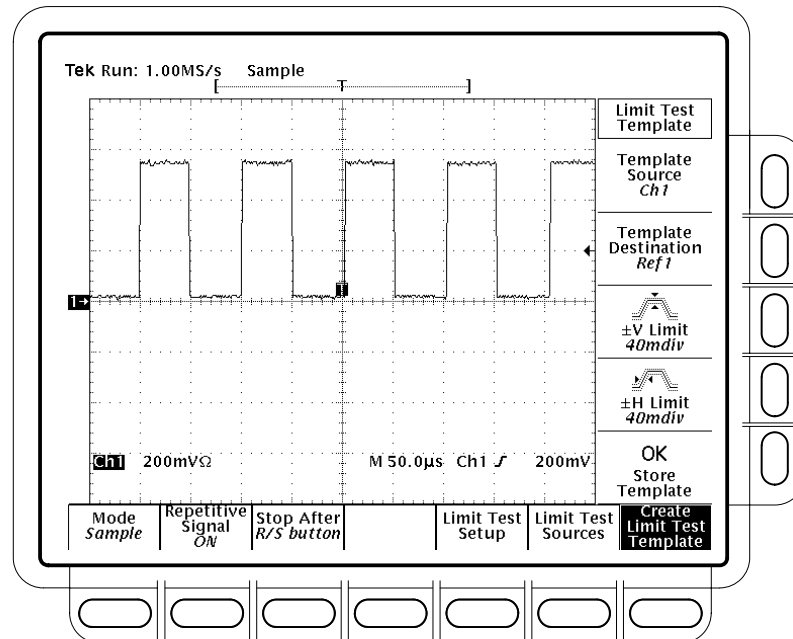

Figure 3-93: Acquire Menu — Create Limit Test Template
2. Press **Create Limit Test Template** (main) → **Template Source** (side) → **Ch1, Ch2, Math1, Math2, Math3, Ref1, Ref2, Ref3, or Ref4** (side). (See Figure 3-93.)